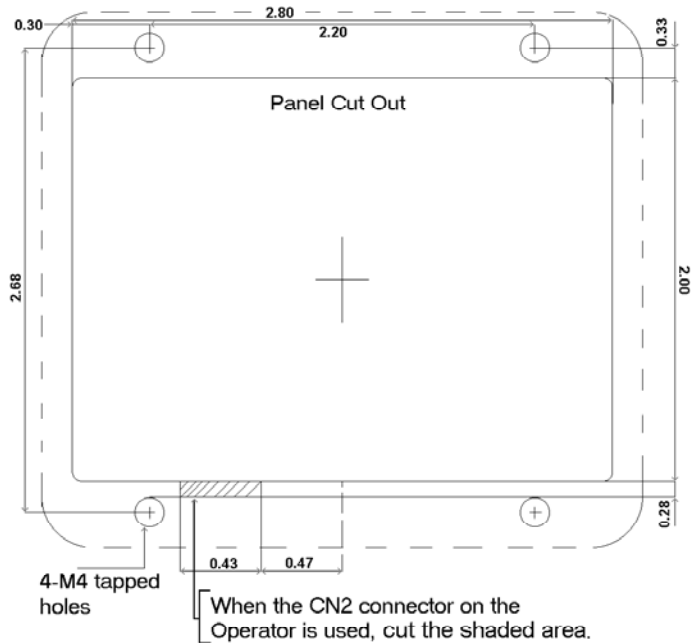

Figure 2: Surface Mount Cutout (dimensions in Inches, not actual size)
10. Cut a hole in the remote operator-mounting panel as shown in Figure 2 for surface mounting.